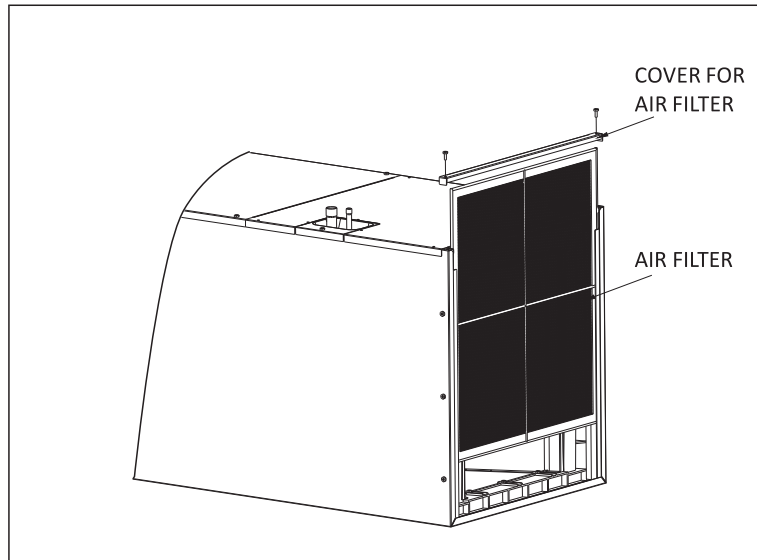

Fig. 4 EXTERNAL FILTER BASE
1. Tear down the two bolts signed A and B, take down the cover for air filter, see in Figure 4.